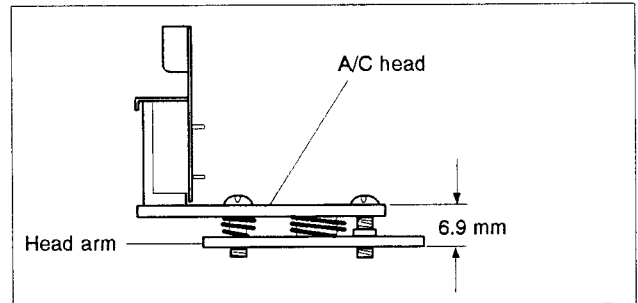

Fig. 2-6-11 A/C head height
- 1) Temporarily set the A/C head height as indicated in Fig. 2-6-11.